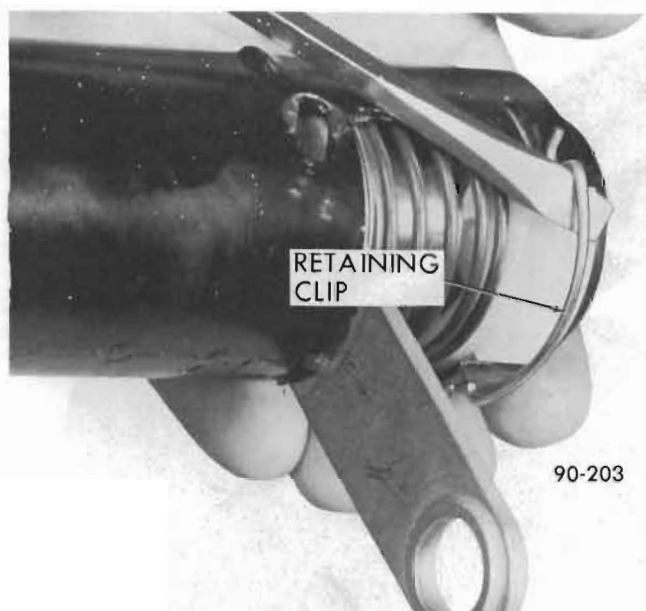

Figure 90-95 Removing Bearing Adapter Clip
3. Remove bearing adapter clip. See Figure 90-95.